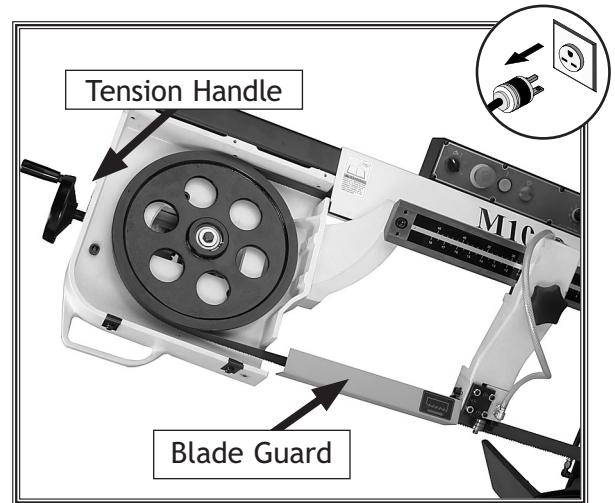

Figure 31. Tension handle and blade.
3. Loosen and slide the both blade guides toward the center of the bow as shown in **Figure 31**.
6. Loosen the blade tension handle in **Figure 31** and slip the old blade off of the wheels then out of the blade guide roller bearings.